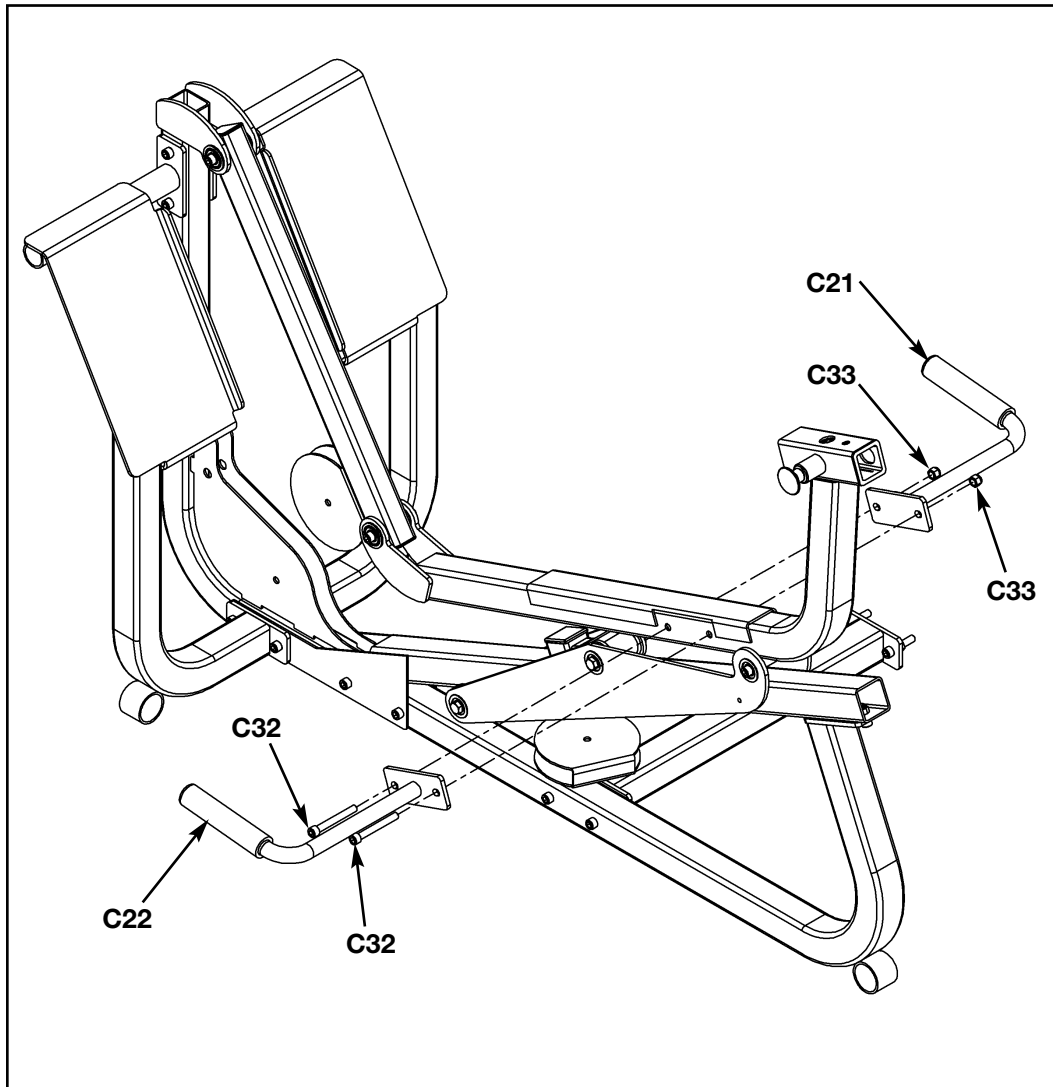

Figure 12
**8. Install handles** (see steps 8A, 8B and Figure 12).
- B.** Install right handle (#C21) and left handle (#C22) as shown in Figure 12, using two SHCS .375-16 x 3.00 (#C32) and two nylon locknuts (#C33). Securely tighten hardware from steps 6 - 8.